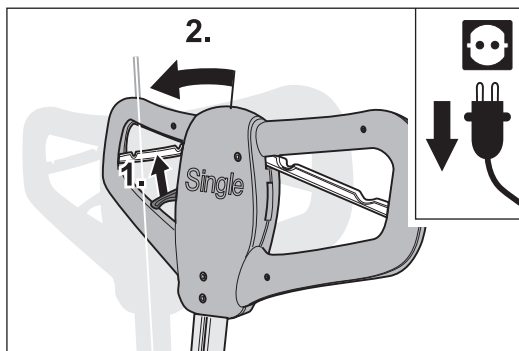
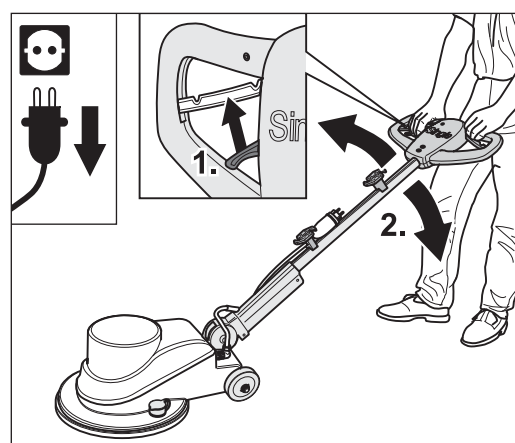

Fig. 3 Pull the adjusting lever to release the lock and raise the guide tube until it reaches the mechanical stop.
Fig. 7 Set the handle to a position that feels comfortable to you.
**4** Pull the adjusting lever on the handle towards you to release the lock of the guide tube, and push the guide tube into and past the vertical position until it reaches the mechanical stop (Fig. 3).
- 8 The height of the guide tube can be adjusted, allowing you to work with the SINGLE as comfortably as possible. To make this adjustment, pull the adjusting lever towards you (Fig. 3). This releases the lock on the guide tube so that it can be moved up or down. Choose the position that feels most comfortable to you (Fig. 7) and release the adjusting lever again.